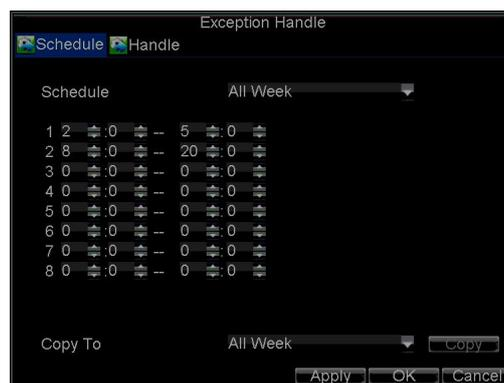

Figure 16. Schedule Settings for Video Loss Detection
5. Click the **Handle** button to enter the Exception Handle menu, shown in Figure 16.